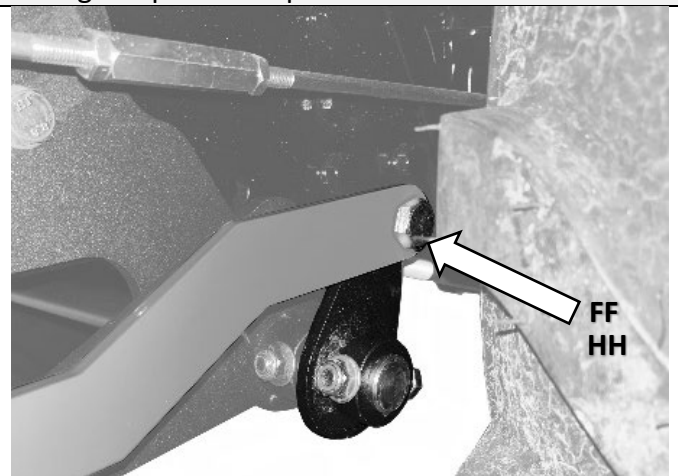

Figure 8B
7. Use bolt FF and washer HH to attach the rear portion to the Deck Indicator as shown (Figure 8B). Tighten the nut enough to be snug, but loose enough to pivot. Torque to 105 in-lb.